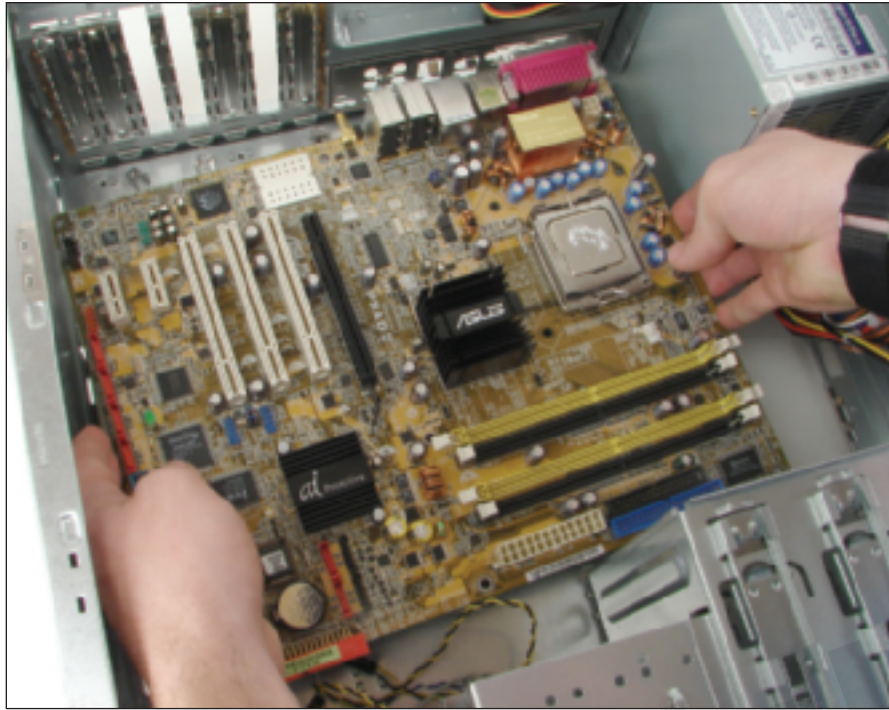

Figure 3-46 Place the motherboard in the case
3. Place the motherboard inside the case (see Figure 3-46), and use screws to attach it to the case. Figure 3-47 shows how you must align the screw holes on the motherboard with those in the case. There should be at least six screw sets, and there might be as many as nine. Use as many as there are holes in the motherboard. Figure 3-48 shows one screw being put in place.